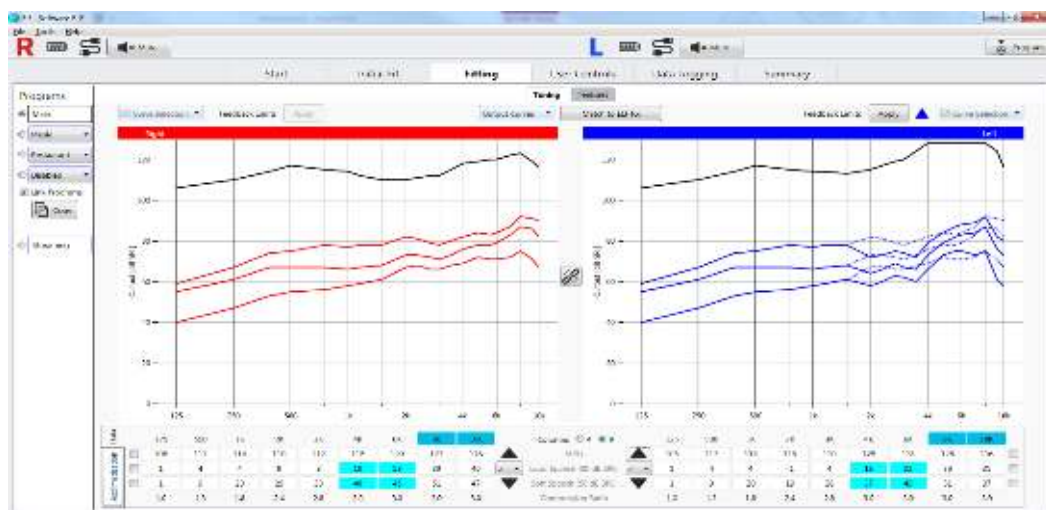

Figure 24. Fine Tuning: Output Curve displaying feedback potential for the left ear
- Gain can be increased beyond the feedback limits but may result in the patient experiencing audible feedback. A warning icon will appear when feedback potential exists on a per ear and program basis. When this occurs, select "Apply" to apply the feedback limits to the frequency response (Figure 24).